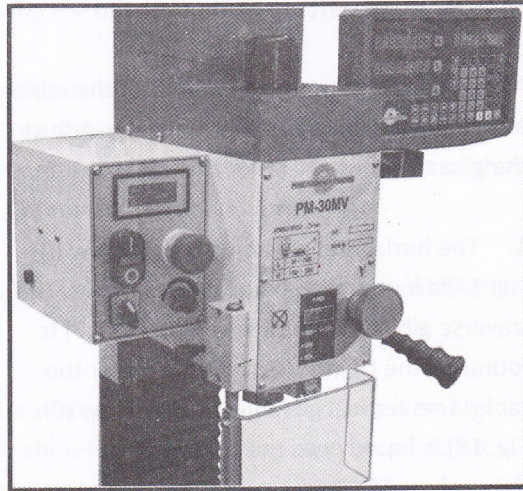

Fig.14
2. Remove the cover of drawbar onto the motor cover (A, Fig. 14)